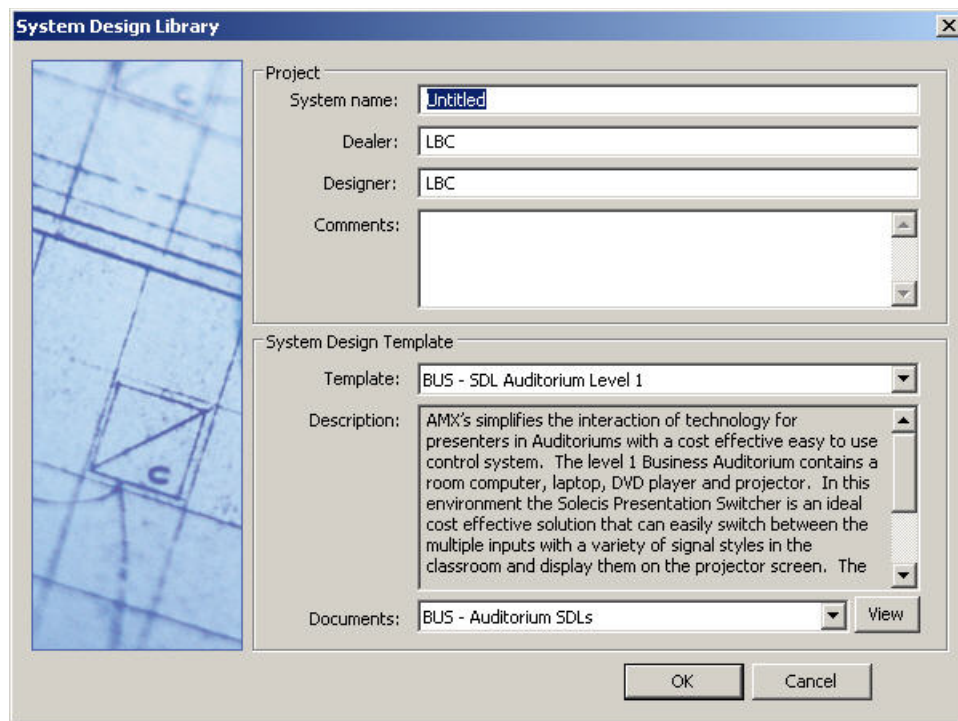

FIG. 31 System Design Library dialog
1. Select **System Design Library** from the **File > New** sub-menu (or on the Welcome Screen) to open the *System Design Library* dialog (FIG. 31).